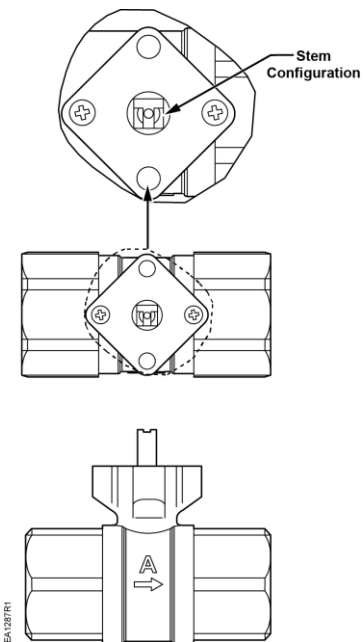
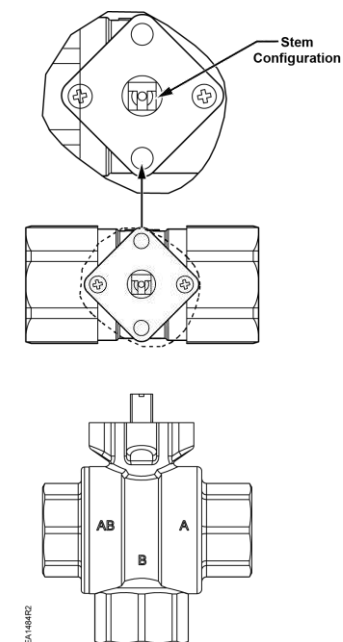

Figure 1. Two-way Configuration.
Figure 2. Three-way Configuration.
Ensure that the ball valve is in the fully open position with the valve stem in the orientation shown in Figure 1 and Figure 2.
- b. **Installed Valves** – See Figure 1 or Figure 2 to check the stem position with respect to the flow arrow.
- Installed valves** - See Figure 1 or Figure 2 to check the stem position with respect to the flow arrow imprinted on the valve.